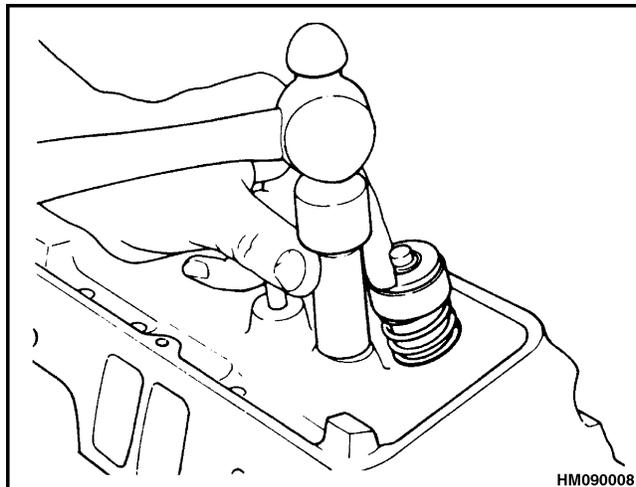

Figure 8. Rocker Arm Stud Installation
2. Use a reamer of the correct size for the new oversize stud. Apply SAE 90 lubricant to the new stud during installation. Install the new stud as shown in Figure 8.